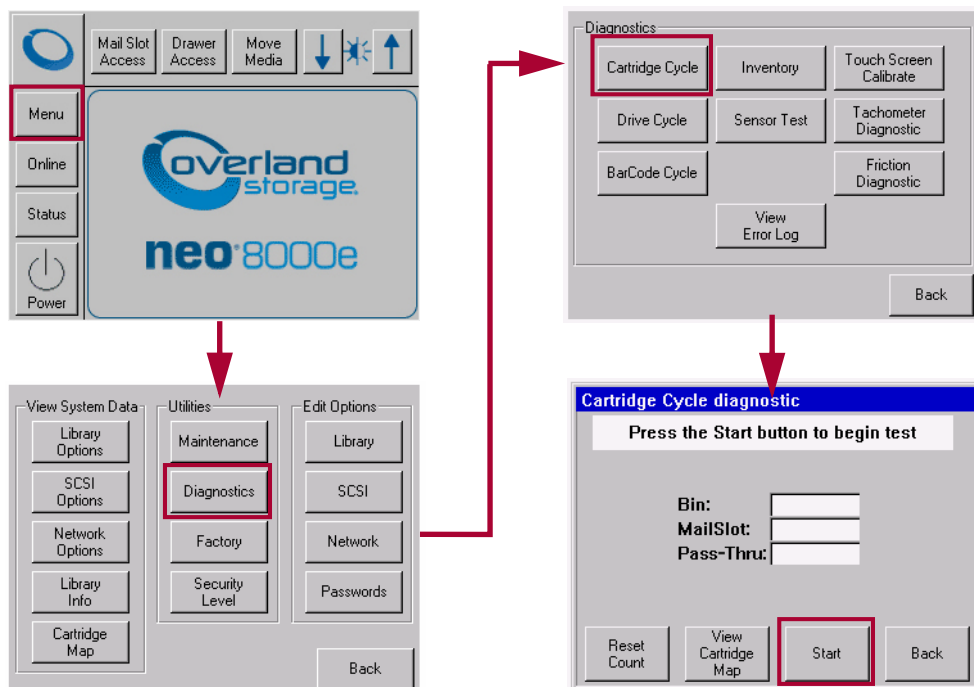

Figure 6-3: Starting the Cartridge Cycle Test
**IMPORTANT:** For the HRA to function correctly, all six (6) drawers of the Master unit must be enabled before enabling any drawers in the Slave unit.
- Select **Menu > Diagnostics > Cartridge Cycle > Start** (see Figure 6-3).